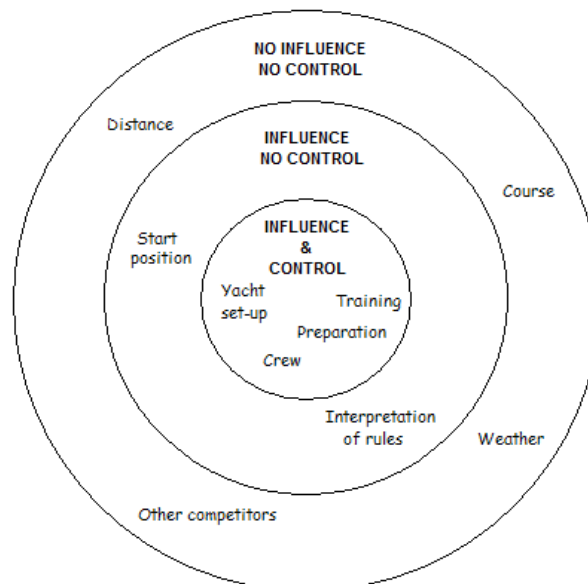

Figure 12: Influence and control in a yacht race
3. Place each component in the appropriate space in the diagram (see Figure 12 below, which illustrates the technique in relation to taking part in a yacht race!).